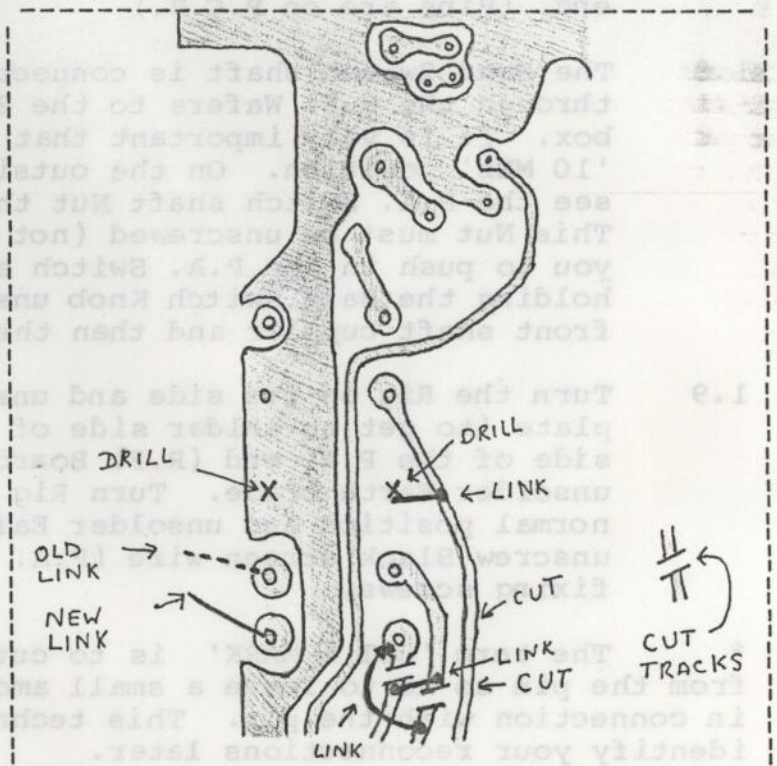

Figure 1
- 2.2 Locate RL02 and unsolder. Note the new (YX95D) Relay is not of the same pinning. Refer to Notes a to c and Figure 1 below and make the following mods to the P.C.B.
- The Relay coil pins are located in a different position so drill two 1.5 mill holes into the P.C.B. at positions x on diagram (Figure 1).
- The N.C. contacts on the old relay are the N.O. contacts on the new Relay and so you will have to cut P.C.B. tracks and make links as shown on diagram (Figure 1) and then fit new Relay.
- Check all connections to diagram (Figure 1).